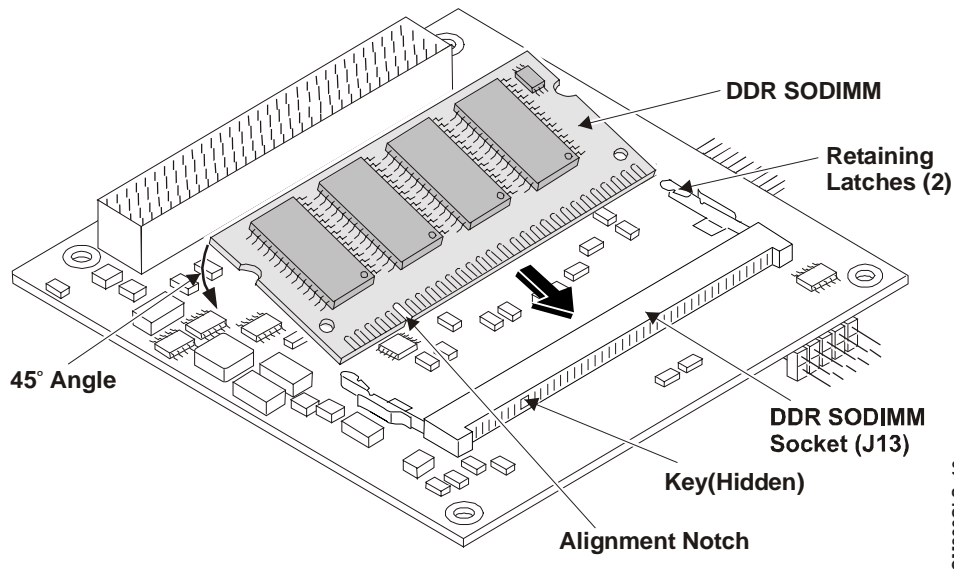

Figure 2-3. Inserting SODIMM into Socket
8. Insert the SODIMM into the socket at 45° angle to the bottom of the CoreModule 800 with the components facing up. See Figure 2-3.